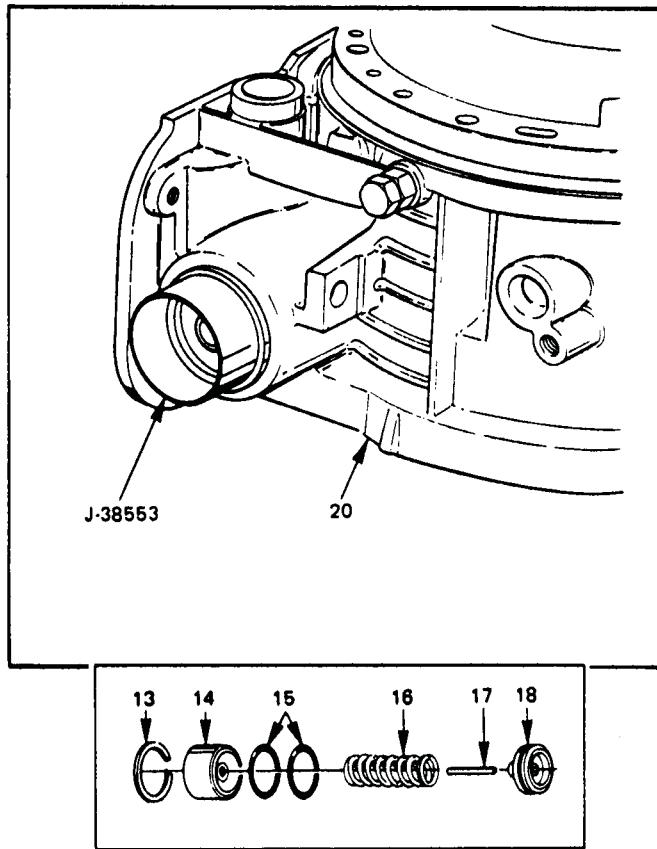

Figure 57
2. Place installation sleeve J-38553 into adapter case bore as shown in Figure 57.
5. Install accumulator piston pin, spring, cover seals, and cover (See Figure 57).